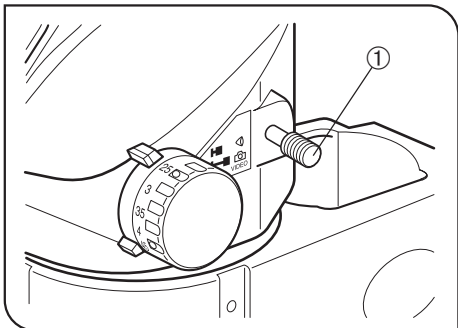

Fig. 11
(Fig. 11)
- ★ Always move the light path selector lever ① until it hits the stop position.
1. For observation through the binocular light path, push in the light path selector lever ① till the stop position. (Fig. 11)
2. For the TV camera light path, pull out the light path selector lever ① till the stop position. (Fig. 11)